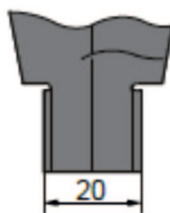

fig. 3
6. CORRECTION (Figure 3, except for series 1135)